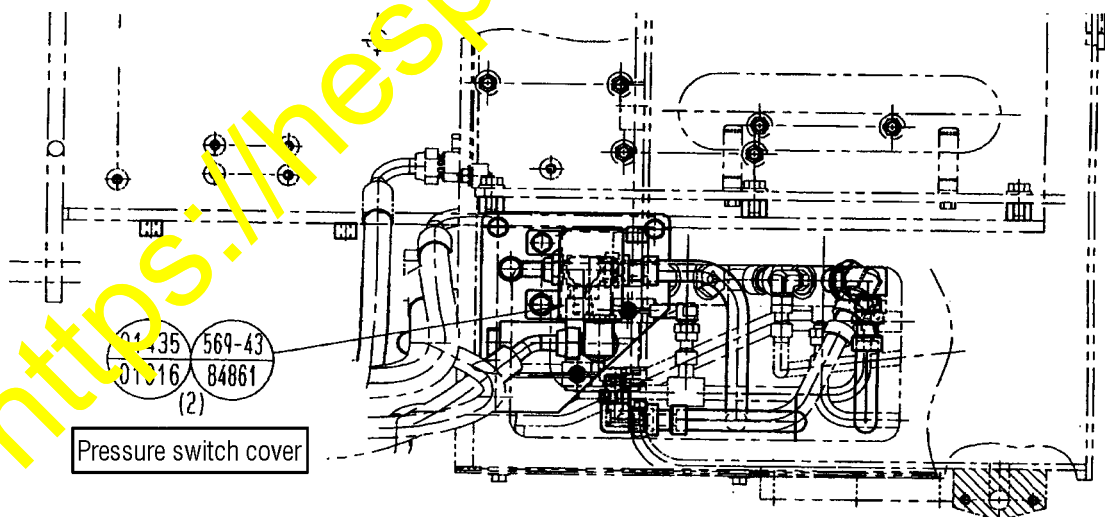

Fig. 9
- 6) Install the cover after connecting the connectors of the EPC valve and of the pressure switch. (Refer to Fig. 9.)